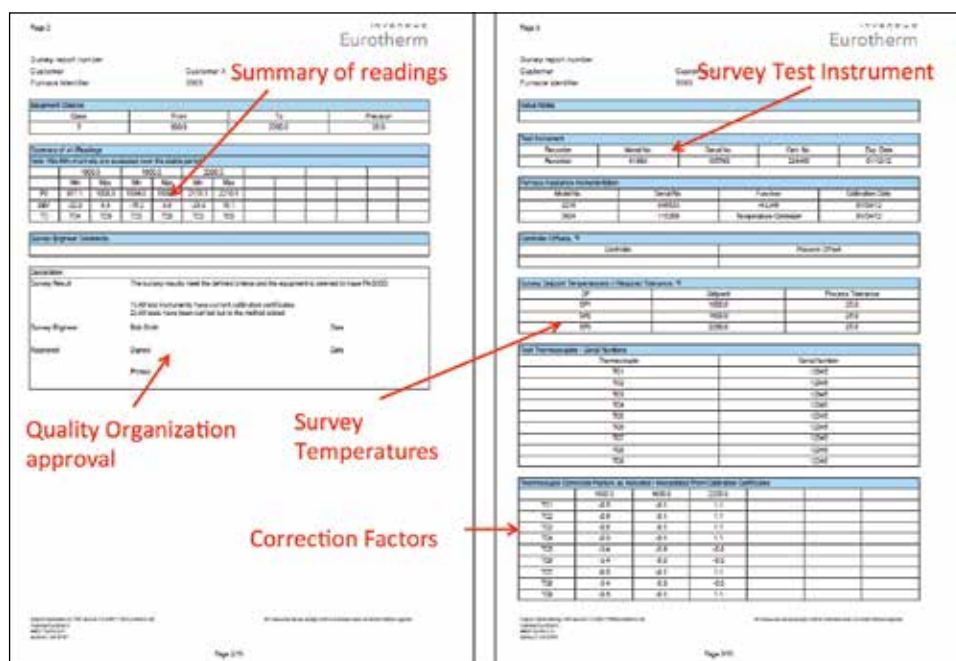

Figure 3: Various report requirements for TUS.
5. List survey test instrumentation (Figure 3)